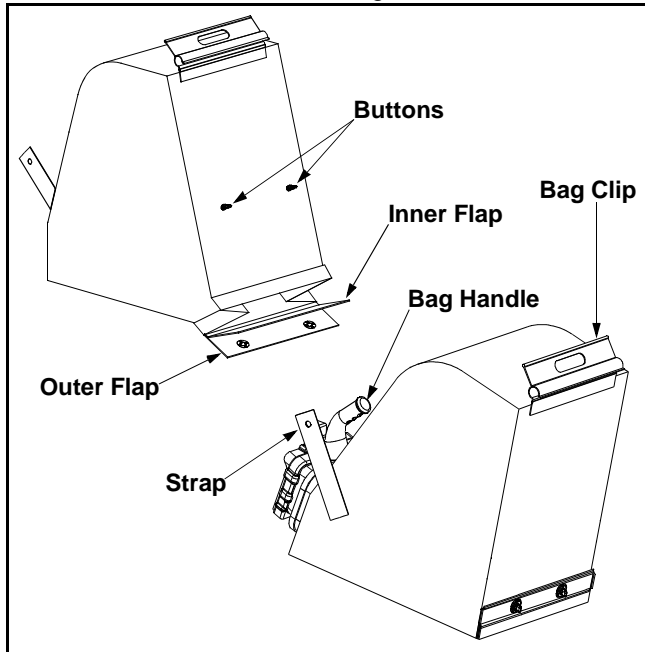

Figure 7
- Unhook bag straps from the lower handle and unsnap bag clip from the top of lower handle. See Figure 7.
- Twist the two buttons on the back of the bag to unlock and empty contents. See Figure 7.